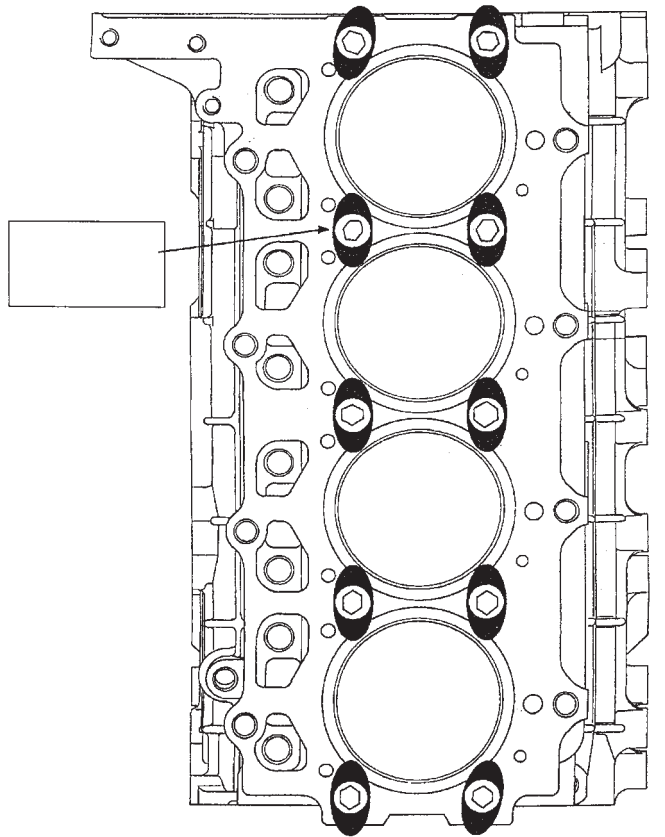

Fig. 53 Liner Clamp Location
(2) Measure the liner recess relative to block deck with a dial indicator mounted on a special tool VM-1010 A. **All the measurements must be taken on camshaft side**. Zero dial gauge on block deck.
(3) Move dial gauge to cylinder liner record reading on dial gauge.
(4) Remove liner and special tool.
(5) Then select the correct shim thickness to give proper protrusion (0.01 - 0.06 mm).
(6) Fit the shim and the O-rings onto the liner.
(7) Lubricate the lower liner location in the block. Apply LOCTITE AVX to the corner of the liner seat. Apply LOCTITE AVX uniformly to the upper part of the liner at area.
(8) Fit the liners in the crankcase making sure that the shim is positioned correctly in the seat. Lock the liners in position using special tool (VM-1016) and bolts (Fig. 53). Clean the residual LOCTITE on the upper surface of the block deck.
(9) Recheck the liner protrusion. It should be 0.01 - 0.06 mm.